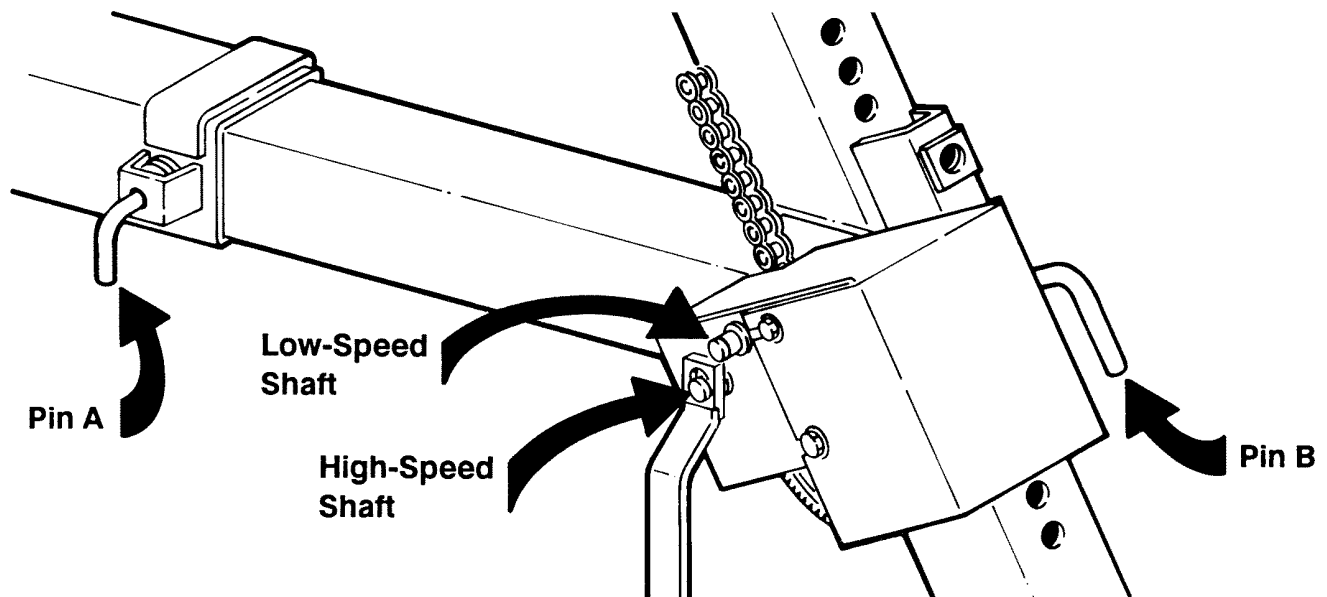

Figure 1-3
1. Disengage pin A and pull the outrigger assembly out until pin A re-engages at the furthest outward outrigger position. Refer to Figure 1-3.
2. Attach the winch handle securely to the high-speed drive shaft (make sure handle clip securely engages the groove in the high-speed shaft). Refer to Figure 1-3.
3. Disengage (and hold) pin B and crank the winch handle counter-clockwise to lower the outrigger foot. Refer to Figure 1-3. Extend all 4 outriggers and lower all 4 outrigger feet to solid footing before proceeding.
4. Remove the winch handle and re-attach it securely to the low-speed drive shaft (make sure handle clip securely engages the groove in the low-speed shaft). Refer to Figure 1-3.